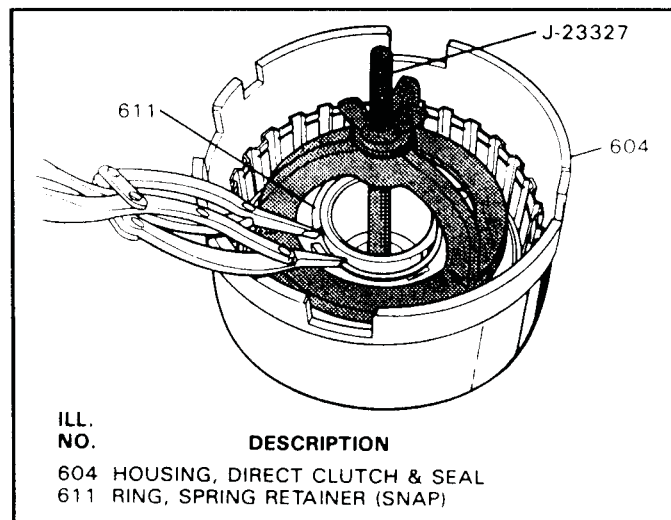

Figure 90
29. Install a suitable spring compressor tool as shown in Figure 90.
30. Compress the return spring and install the snap ring, using a pair of snap ring pliers, as shown in Figure 90.